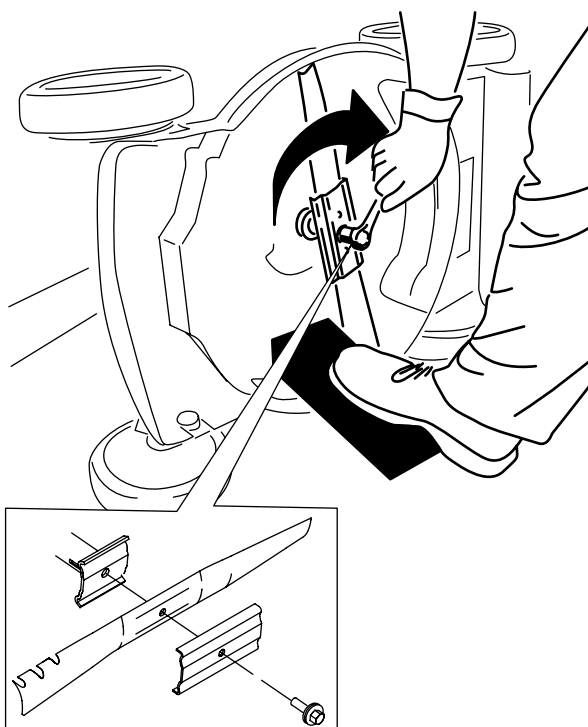

Figure 22
4. Install the new blade, bracket, and blade bolt (Figure 22).